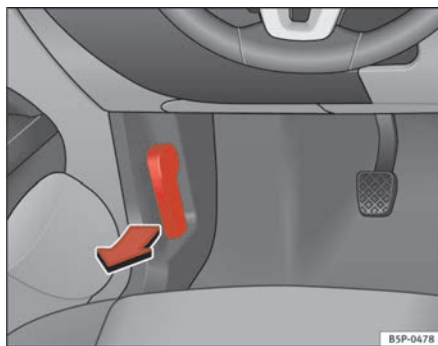

Fig. 155 Detail of footwell area on driver's side: lever for unlocking the bonnet.
- To release the bonnet, pull the lever under the dashboard ⇒ fig. 155 in the direction indicated (arrow). The bonnet will be released by a spring action ⇒ ⚠.